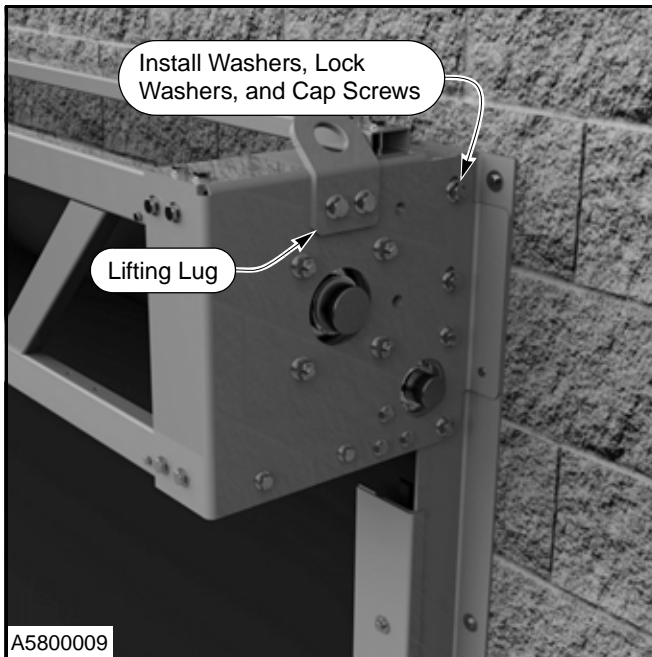
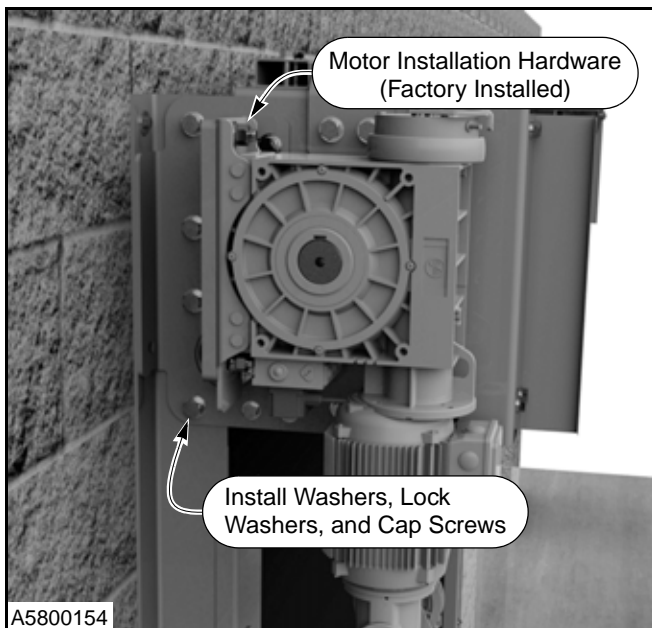

Figure 18
Figure 19
10. Lift into position and align head assembly with the side columns. Install washers, lock washers, and cap screws. (See Figure 18 and Figure 19.)